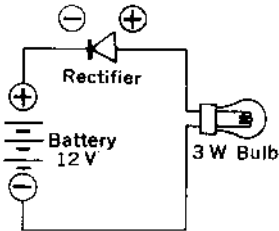

Fig.114 Inspection of rectifier
1. Inspection is carried out easily by flowing 12-volt current in the reverse direction as shown in Fig. 114.